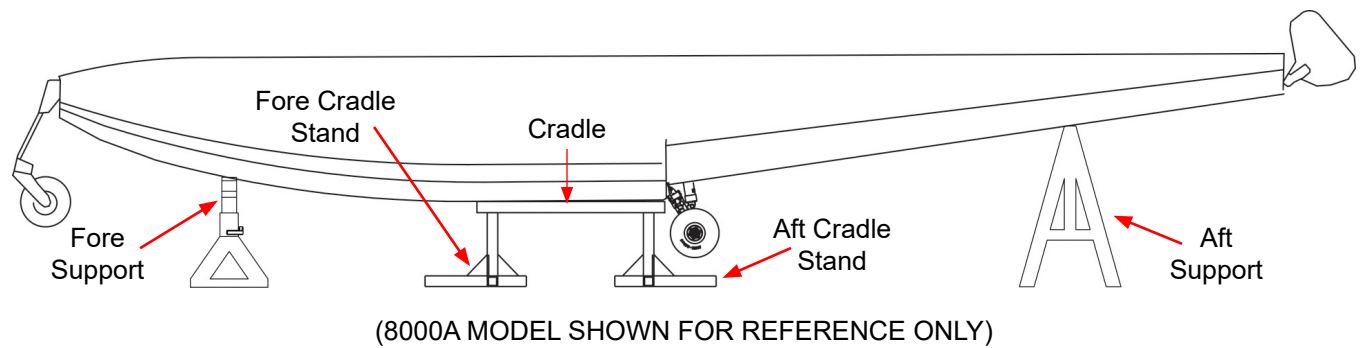

FIGURE 3-4 FLOAT SECURING LOCATIONS OVERVIEW
1. Raise aircraft high enough to place float cradle under floats as shown in Figure 3-4.
2. Lower aircraft onto float cradle as shown in Figure 3-4.
3. Place fore and aft supports as shown in Figure 3-3 and Figure 3-4.
4. Secure floats with fore and aft supports as shown in Figure 3-3 and Figure 3-4.
5. Remove all fore and aft supports as shown in Figure 3-3 and Figure 3-4.